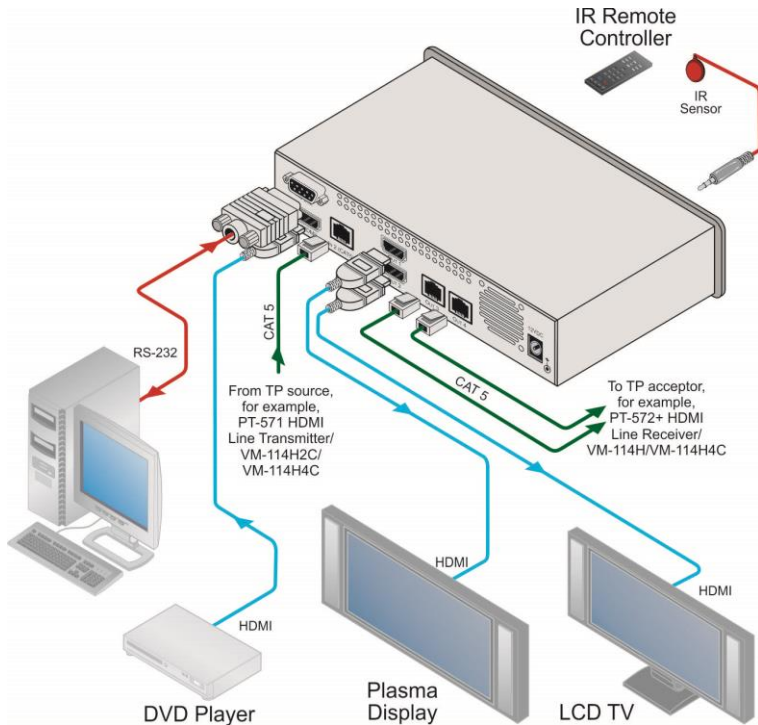

Figure 2: Connecting the VM-114H2C 2 Input 1:4 HDMI DA/2x CAT5 Outputs
To connect the **VM-114H2C** as illustrated in the example in Figure 2:
7. Connect the power adapter to the power socket on the **VM-114H2C** and to the mains electricity (not shown in Figure 2).